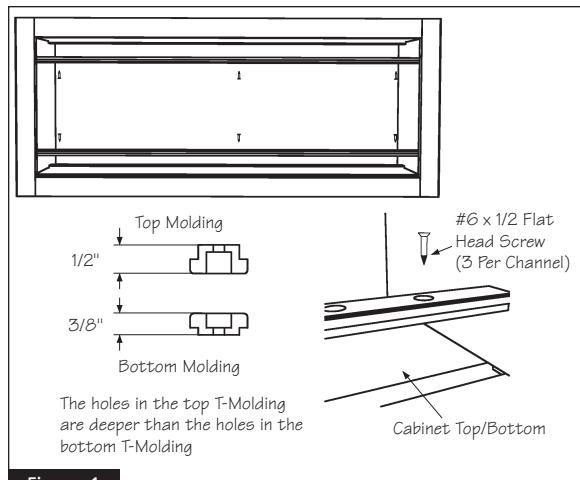

Figure 1
- 2 Remove the T-Molding by removing the screws. Gently remove the T-Molding from the groove in the cabinet. Be sure not to lose the screws. You will need them later to reattach the new T-Molding. See Figure 1.
- 1 Place the T-Molding into the groove in the cabinet top/bottom. Be sure to use the correct T-Molding for the top or bottom of the cabinet. See Figure 1.